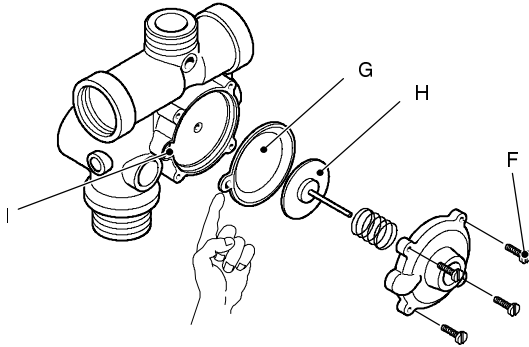

fig. 61
- 3 Unscrew the four screws *F*, open the hydraulic operator and remove the membrane *G* (fig. 61).
**Assembling the part, ensure to place the concave side of the membrane towards the actuator plate *H* and the reference hole indicated in the seat *I* (fig. 61).**